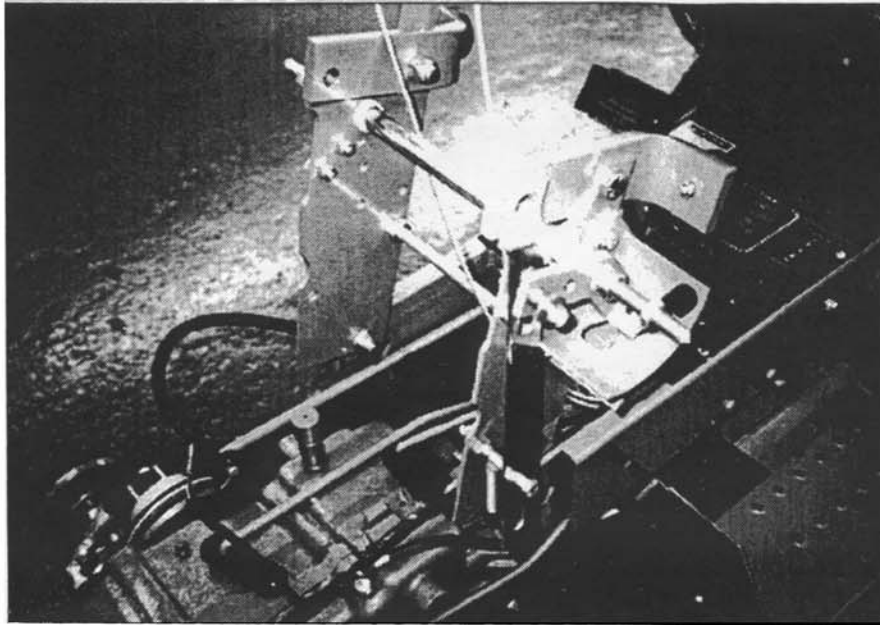

FIGURE 11
11. Swing both plates up and out of the way. See Figure 11.